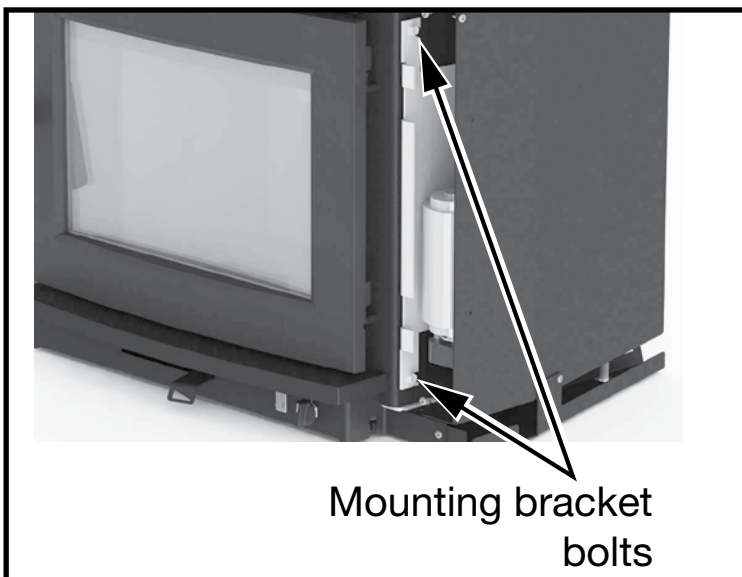

Figure 10: Blower mounting bracket bolts.
3. With a 3/8"(10mm) wrench, loosen the two bolts securing the blower mounting bracket to the unit (Figure 10).